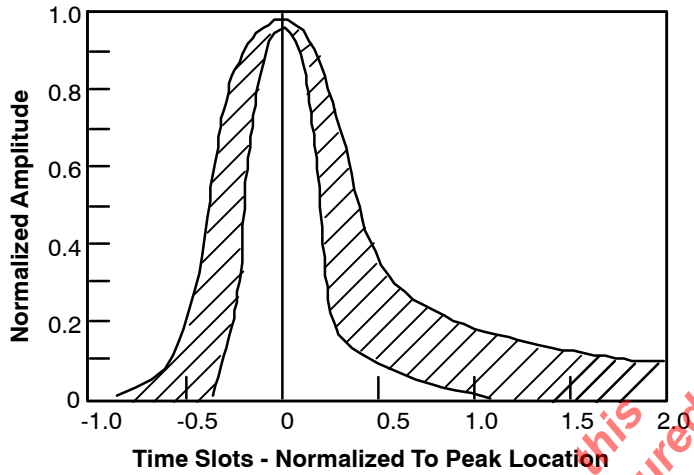
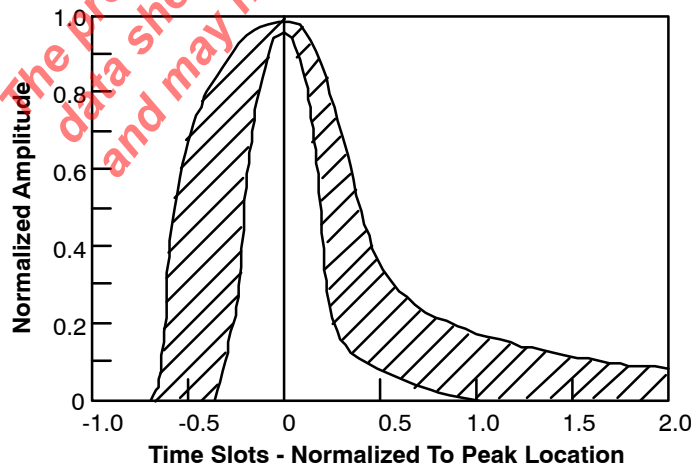

Figure 4. DSX-3 Isolated Pulse Template for ACCUNET T45 Standards
Figure 5. DSX-3 Isolated Pulse Template for G.703 Standards
requirements exist: the ACCUNET T45 pulse template (see *Table 2* and *Figure 4*) and the G.703 pulse template (see *Table 3* and *Figure 5*). *Table 2* and *Table 3* give the associated boundary equations for the templates. The XRT7295AT correctly decodes any transmitted signal that meets one of these templates at the cross-connect.
Pulse Shape	An isolated pulse must fit the template in NO TAG or Figure 5 . ¹ The pulse amplitude may be scaled by a constant factor to fit the template. The pulse amplitude must be between 0.36v _{pk} and 0.85v _{pk} , measured at the center of the pulse.
- ¹ The pulse template proposed by G.703 standards is shown in *Figure 5* and specified in *Table 3*. The proposed G.703 standards further state that the voltage in a time slot containing a 0 must not exceed 5% of the peak pulse amplitude, except for the residue of preceding pulses.
Table 2. DSX-3 Pulse Template Boundaries for ACCUNET T45 Standards (See *Figure 4.*)
Table 3. DSX-3 Pulse Template Boundaries for G.703 Standards (See Figure 5)